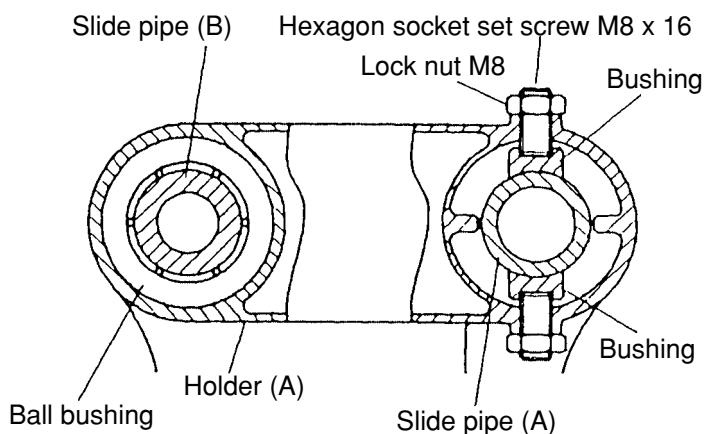

Fig. 48
After extended use, there may be some looseness between slide pipe (A) and holder (A) because of worn bushings (they are made of resin material) on the slide pipe (A) portion. If abnormal looseness is noted, perform adjustment as described below. (See Figs. 48 and 49.)